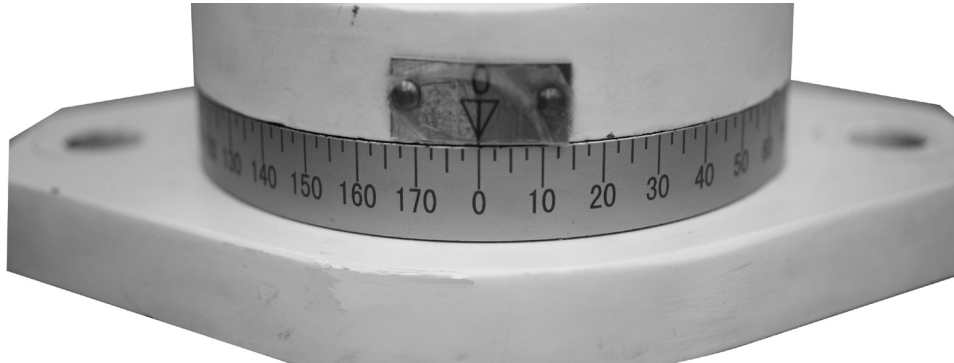

Fig. 12
- (5) Loosen the End Mill Grinding Attachment so that it can be swiveled and adjust it 1° - 5° as Figure 12.